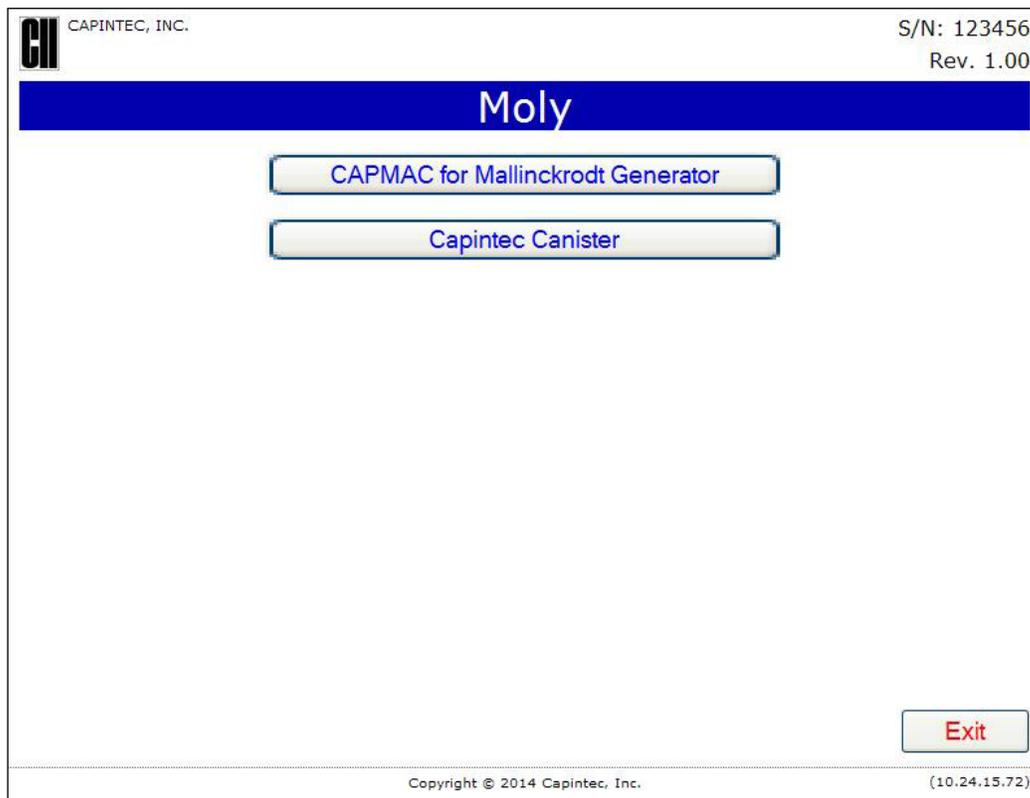

Figure 10-7 Moly Method Selection Screen
- If more than one method was selected in Moly Assay Setup, Figure 10-7 Moly Method Selection Screen will appear. In the example, both methods were selected.